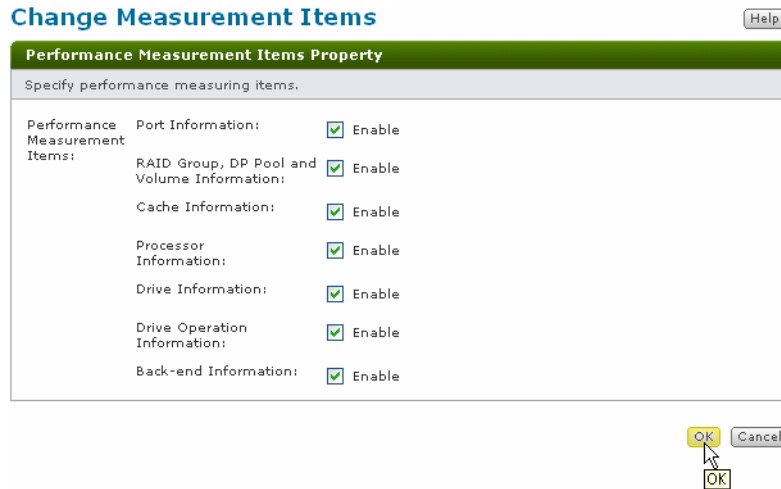

Figure 8-9: Monitoring - Performance Measurement items
- Click **Performance** and click **Monitoring**. The Monitoring - Performance Measurement Items window displays as shown in Figure 8-9 on page 8-34.